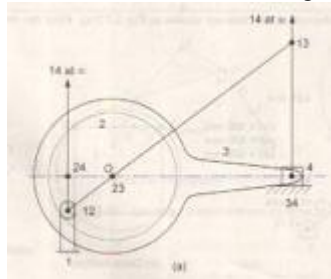

Fig. 2.9
5. Locate all the instantaneous centers of the mechanism shown in the figure 2.9